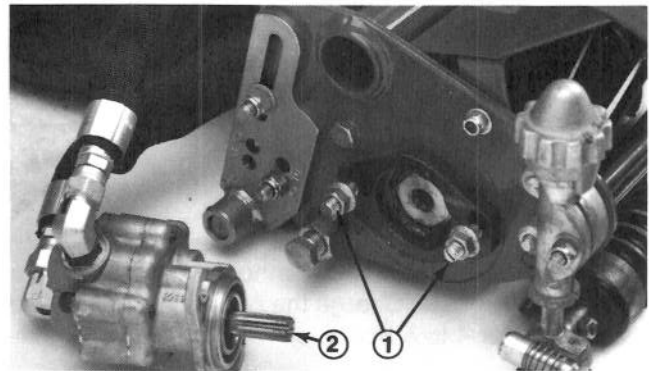

Figure 5
3. Assemble the mount nuts for the reel drive motor to each cutting unit. Leave approximately 1/2 in. of threads exposed on each mount stud (Fig. 5).
4. Remove the protective covers from the cutting units and the reel drive motor shafts. Coat the spline shaft of the motor with clean grease and install the motor by rotating the motor clockwise so the motor flanges clear the studs. Rotate the motor counter-clockwise until the flanges are encircling the studs and tighten the mounting nuts (Fig. 5).